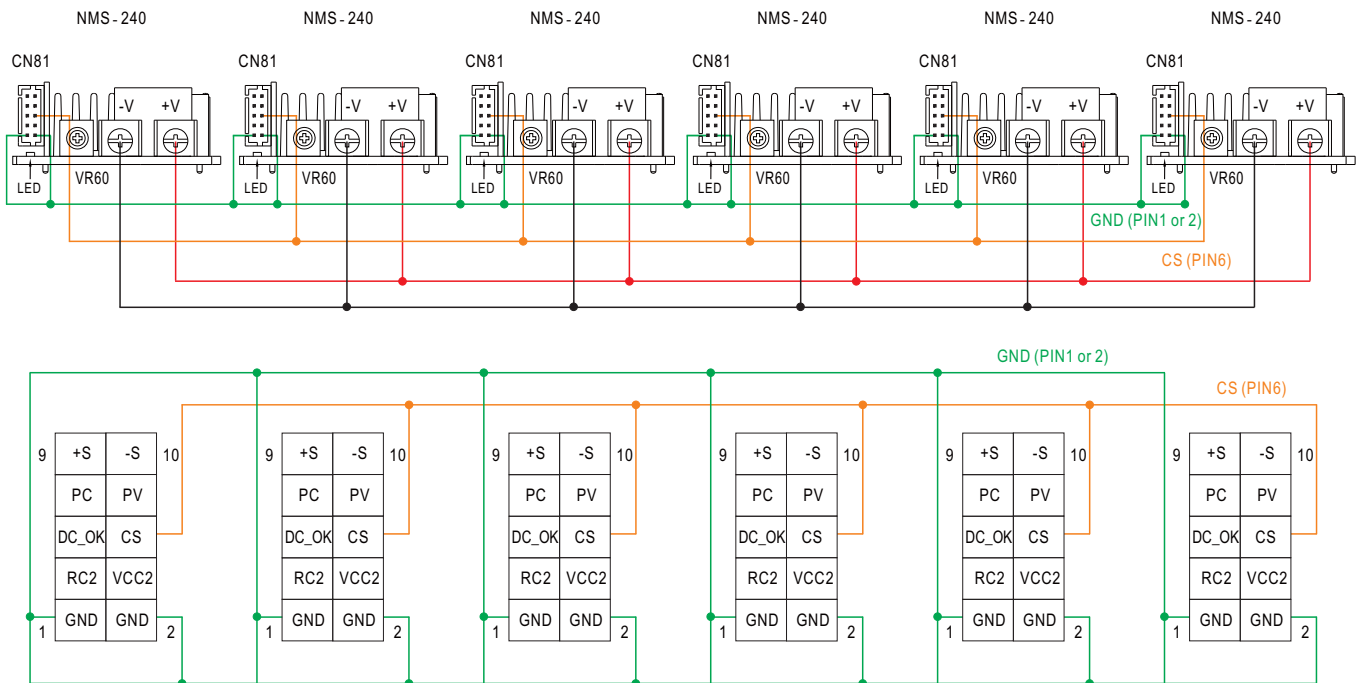

Figure 5-12
- ⊙ In parallel operation, CS and GND pins of CN81 of all modules need to be connected in parallel as shown in Figure 5-12. Refer to A1.2 for more details on the connection accessory.
- ⊙ When power modules are in parallel, output current programmable (PC) function shall NOT be in use.